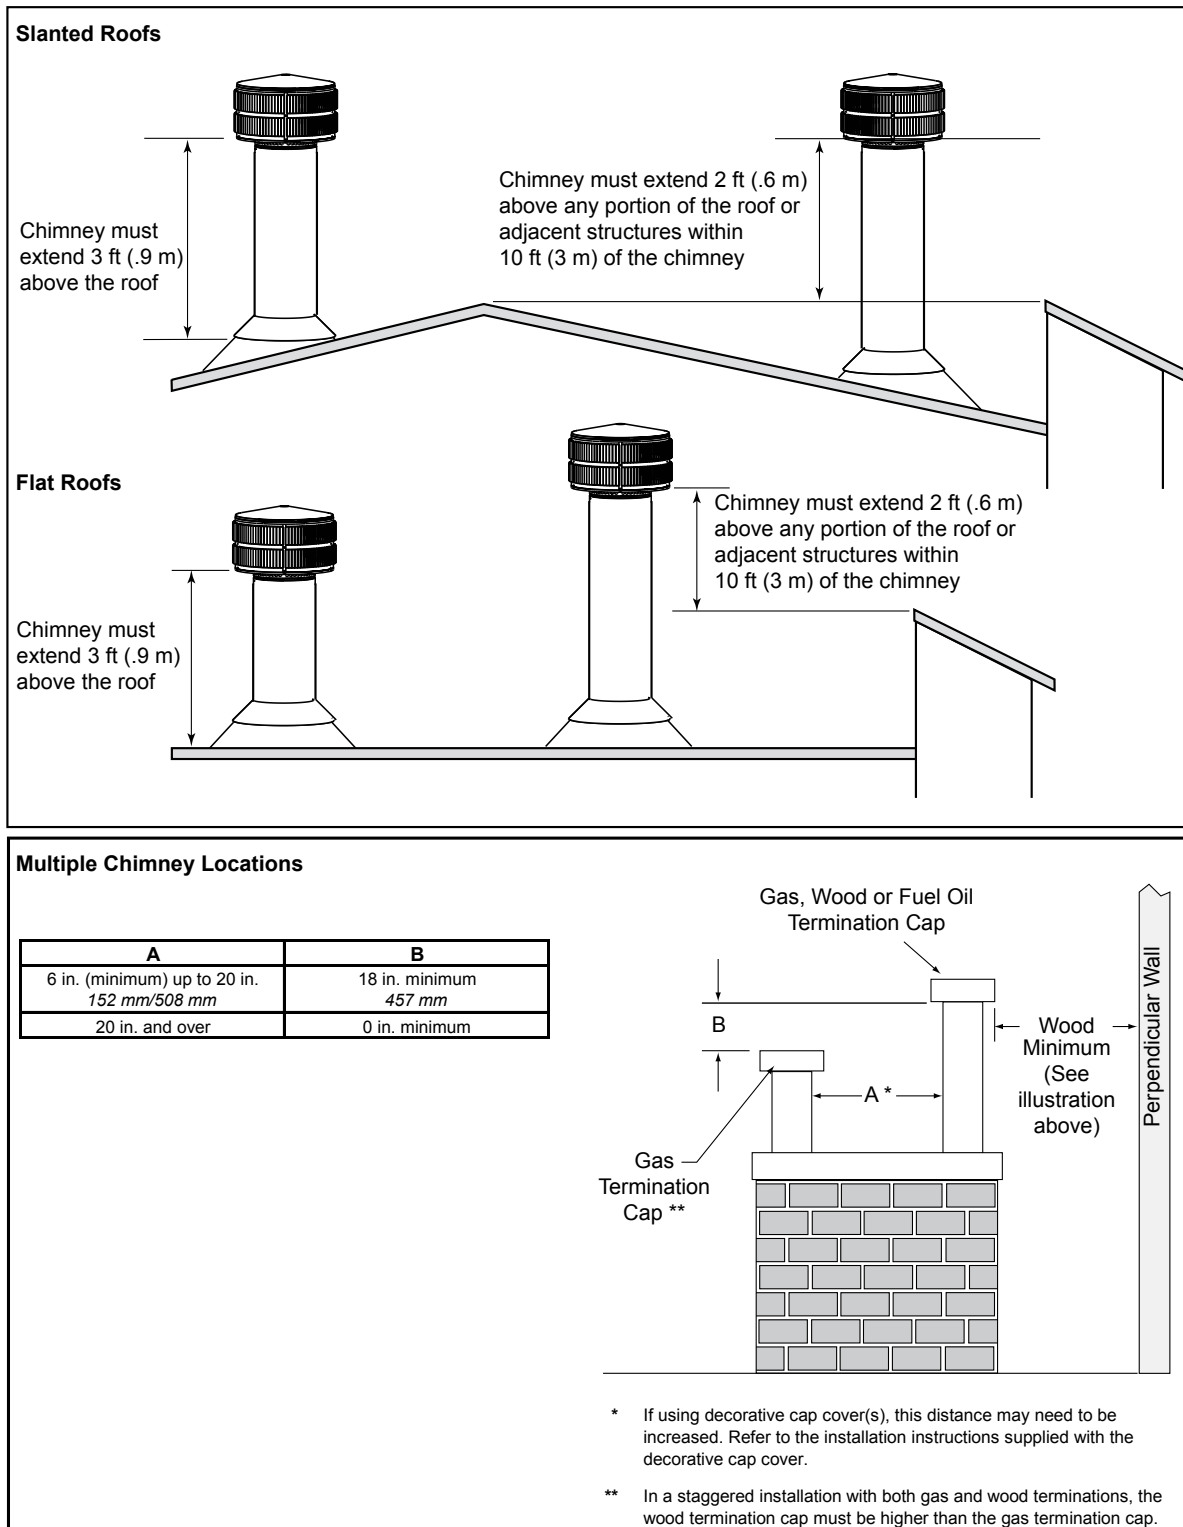

Figure 8.7 Multiple Chimney Locations
- The bottom of the termination cap must be at least 3 ft (.91 m) above the roof AND at least 2 ft (.61 m) above any portion of roof within 10 ft (3.05 m) as shown in Figure 8.7.
- The distance required between caps is shown in Figure 8.7.